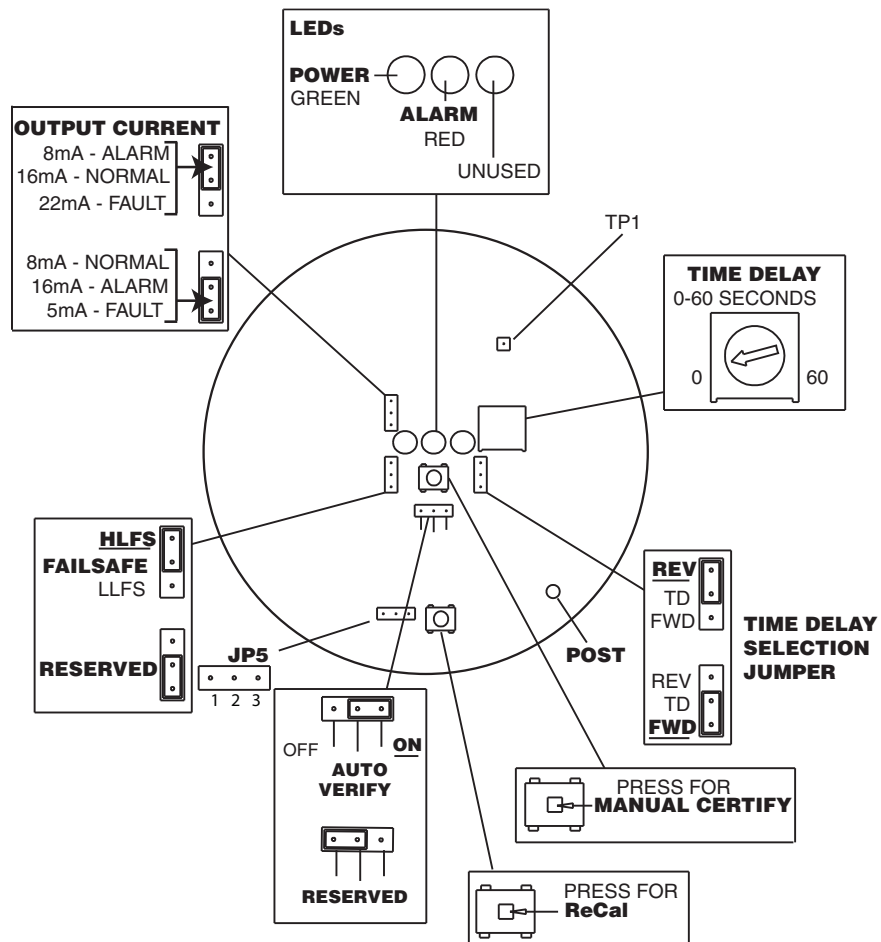

Figure 2-8
1. On the RF circuit board (**Figure 2-8**), temporarily remove the shunt jumper from the “Time Delay Selection Jumper” and place it on pins 1 & 2 of JP5. The green LED will go out, and the red LED’s will begin to flash. The number of flashes indicates which mode the unit is in: 1, 2, 3, or 4.